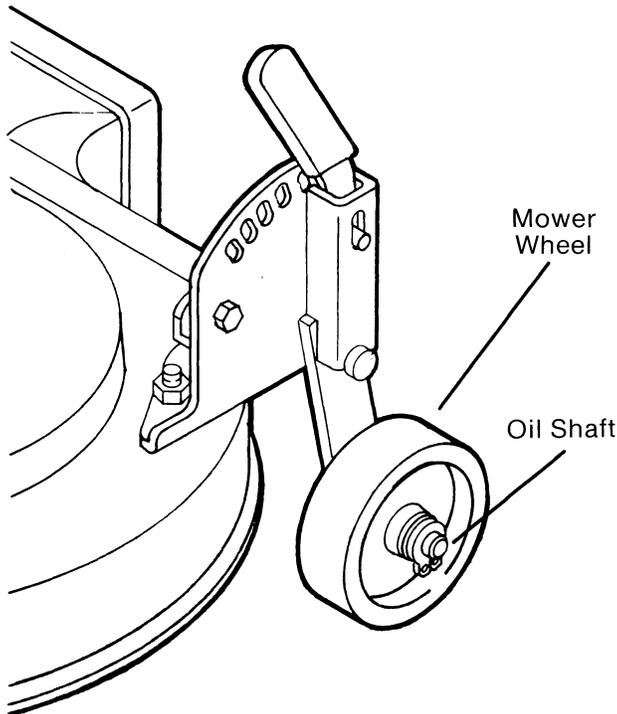

FIG. 11
- a. Mower Wheels: Oil shaft liberally, turning wheels to work oil in. If wheels become tight, remove wheels, clean shafts. Oil shafts using #30 oil and replace. (Fig. 11)